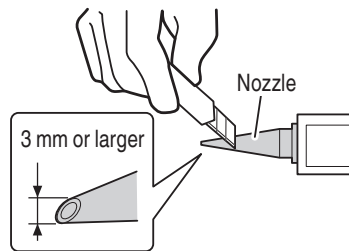

Fig. 17
- (1) Cut off the tip of the nozzle at an angle. (Fig. 17)